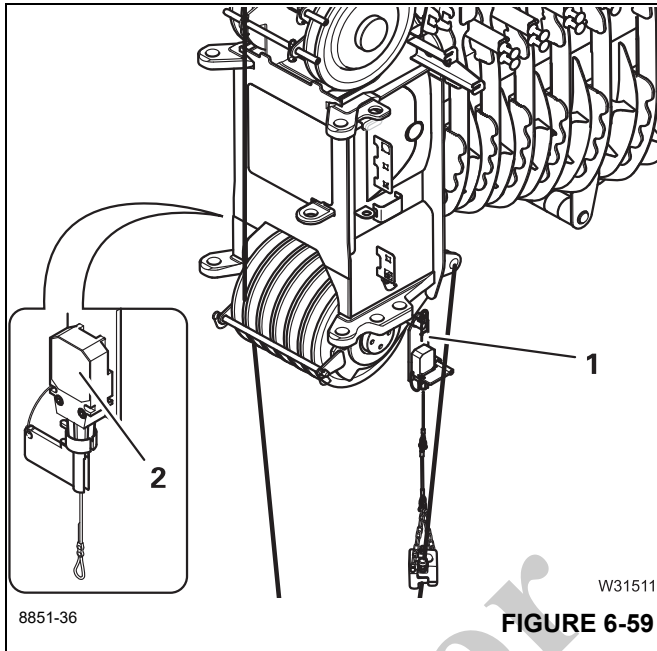

FIGURE 6-59
If the anti-two block switch weight has, for example, been attached to the left anti-two block switch (1), (Figure 6-59), you must lock the right anti-two block switch (2), (Figure 6-59). Refer to *Locking*, page 6-40.